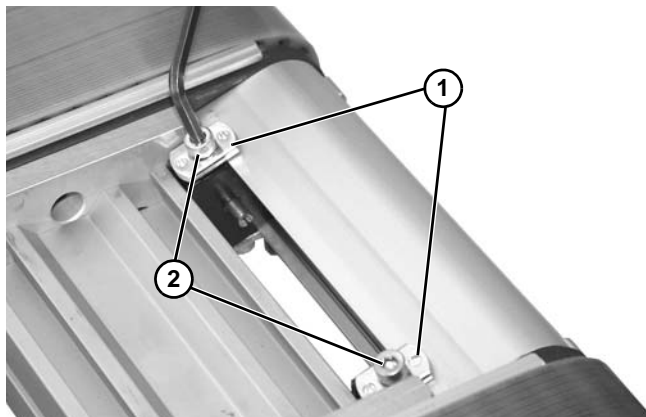

Figure 32
13. Secure top and bottom guards with weld nut (**Figure 32, item 1**) and screw (**Figure 32, item 2**) on each side of assembly. Repeat on bottom side.
14. Tighten screws (**Figure 32, item 2**).